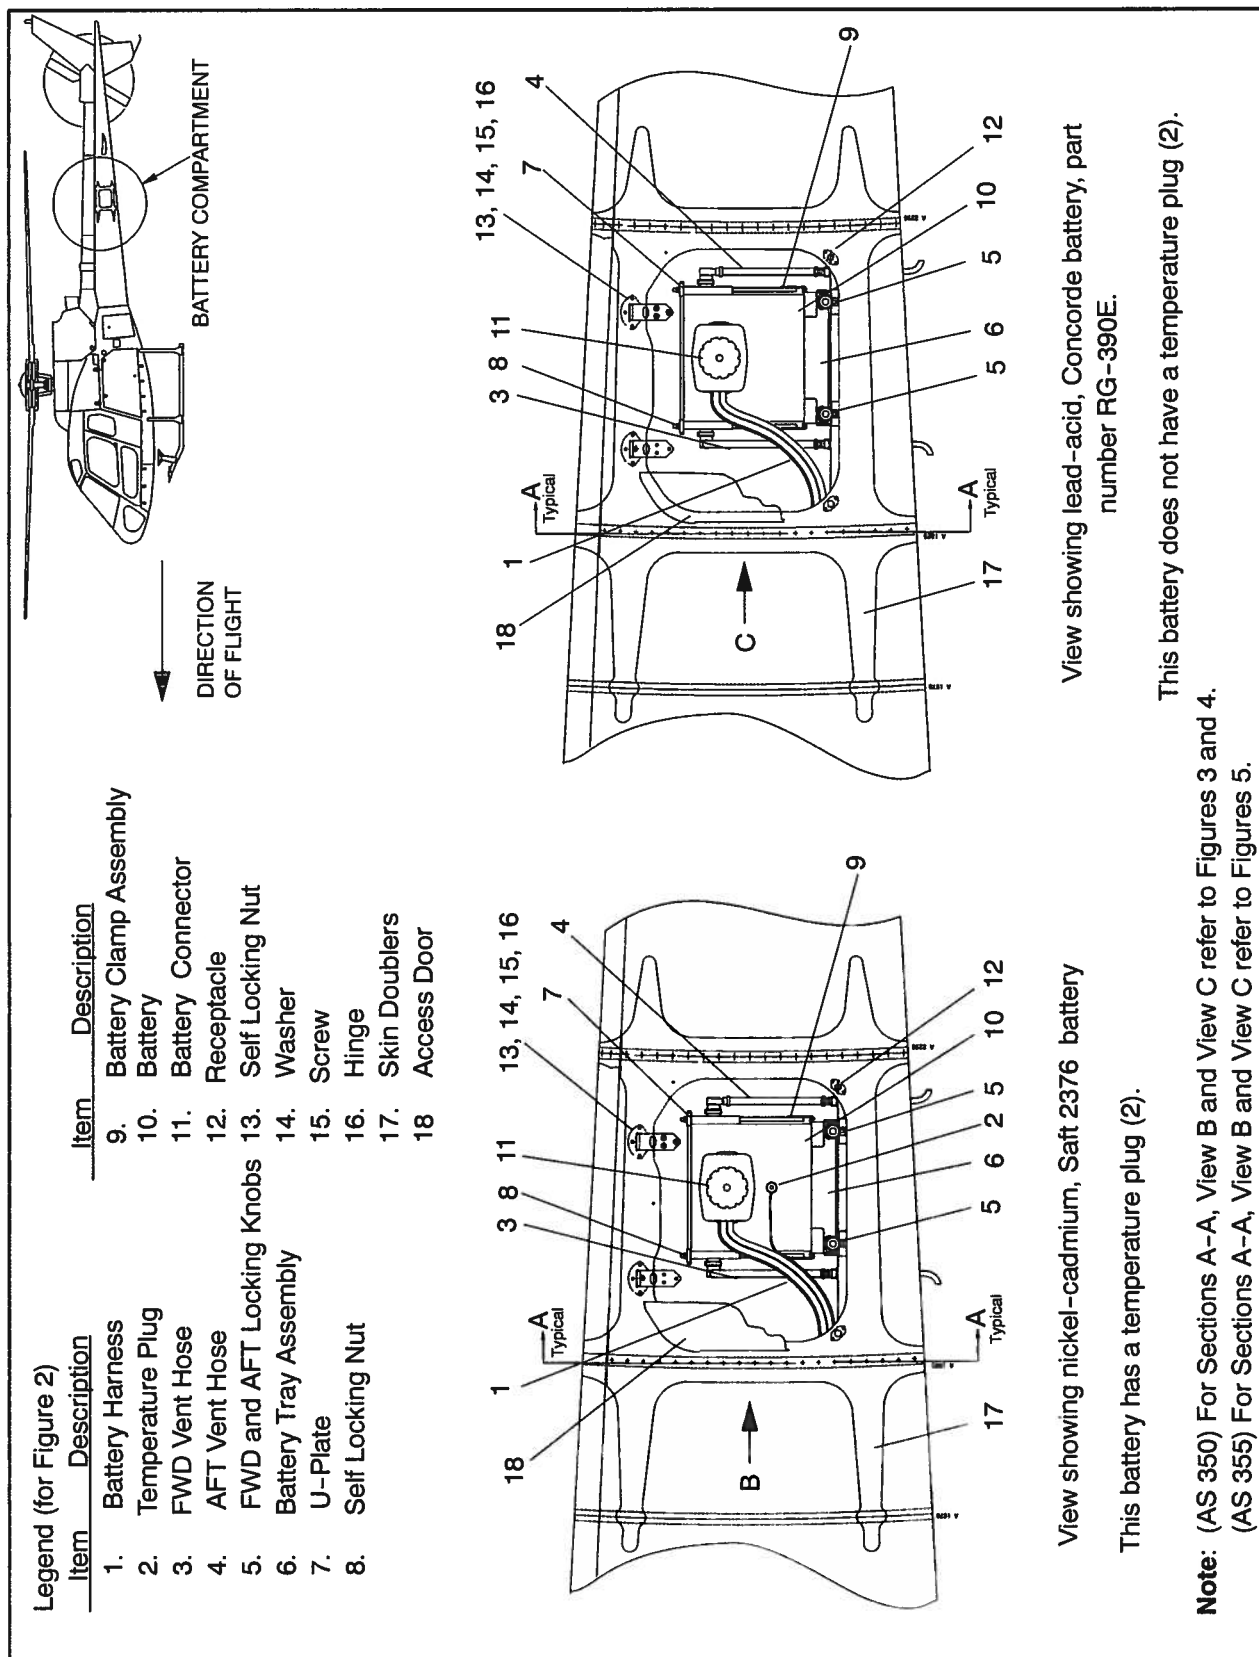

Figure 2 AS 350 and AS 355 Battery Compartment (main views)
- Battery Tray Assembly (Refer to Figure 2)
- Battery Harness (Refer to Figure 2)
- Skin Doublers (Refer to Figure 2)
**Note:** For VIEW B and VIEW C locations refer to Figure 2.
**Note:** For Section A-A, VIEW B and VIEW C locations refer to Figure 2.